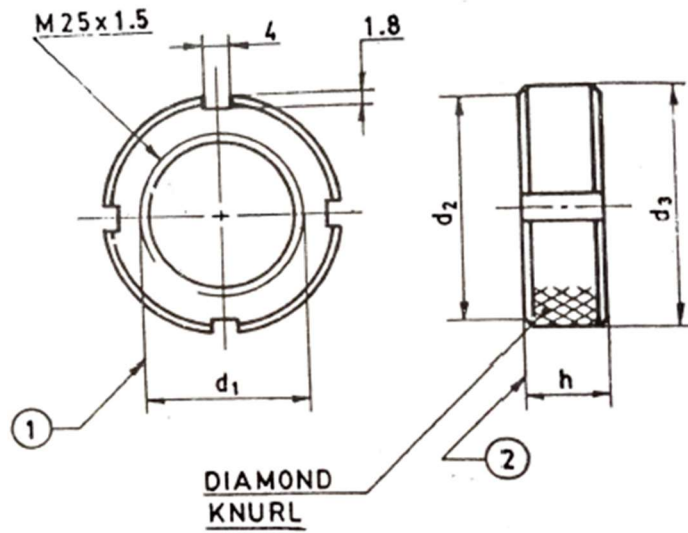

Figure-5 Slotted nut
2. Two views of a slotted nut are shown in figure-5. Redraw the given figure by taking $d_1 = \text{Ø}25$, $d_2 = \text{Ø}36.6$, $d_3 = 36$ and $h = 12$ and indicate following geometrical tolerances: 1) End faces of the nut are parallel with a geometrical tolerance of 0.02mm 2) The datum axis of the nut to which the tolerance frame is connected, should be contained in a cylindrical zone of diameter 0.2mm coaxial with the datum.